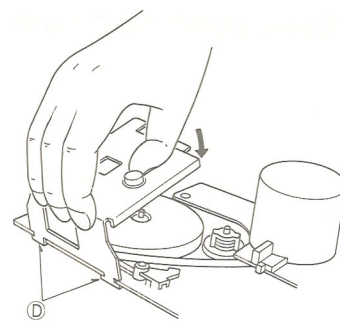

Fig. 20
4. Shift down the flywheel retainer, supported at points ⑧, in the direction of the arrow as illustrated. (fig. 20)